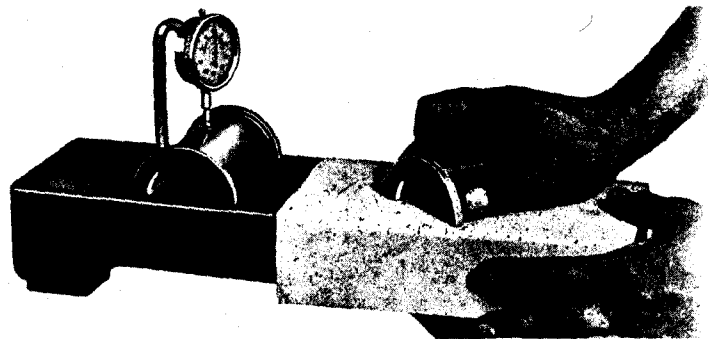

Fig. 19. Gauge 71969 Used as a Surface Plate in Fitting Main Bearings
(2) **Fitting crankshaft main bearings:** To use the gauge as a surface plate in fitting crankshaft main bearings, turn it upside down and clamp the indicator in position with the holder, as shown in Fig. 19.
When the clearance between the crankshaft and the bearing has been determined, place the lower half of the bearing under the gauge, as shown in Fig. 19, and, sliding the bearing back and forth, set the indicator to zero. Reduce the bearing by stretching emery cloth over the face plate and rubbing the bearing on the emery cloth. By making tests at intervals, the actual amount of metal taken off can be determined accurately. See the Shop Manual for directions concerning main bearing adjustments.